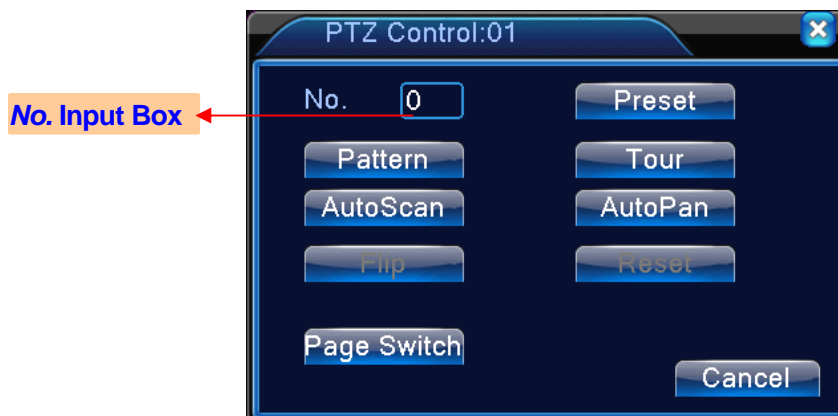
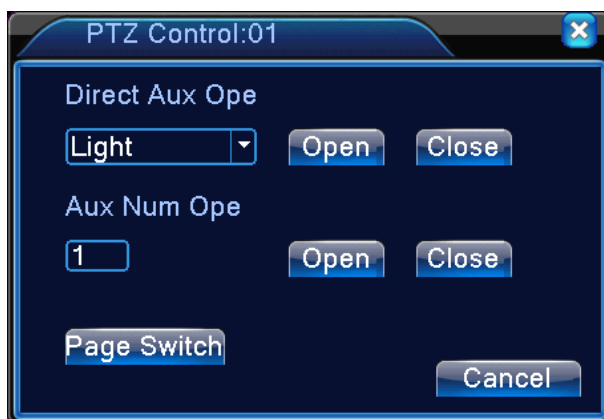

Figure 3.9 PTZ Control
Figure 3.13 Auxiliary Function Operations
In Figure 3.7, click **[Page Switch]** key and enter **PTZ Control** interface as shown in Figure 3.9. Enter preset point number in the **[No. Input box]**, click **[Preset]** key, and then the PTZ turns to the corresponding preset point.
In Figure 3.7, click **[Page Switch]** key and enter PTZ control interface as shown in Figure 3.9. Input patrol number in the **[No. Input box]**, and click **[Tour]** key to make the PTZ work repeatedly in the patrol line. Click **Stop** key to stop the Patrol.
In Figure 3.7, click **[Page Switch]** key and enter PTZ control interface as shown in Figure 3.9. Enter Patrol trail number in the **[No. Input box]**, click **[Pattern]** key, then the PTZ operates on the set trail. Click **Stop** key to stop.
In Figure 3.7, click **[Page Switch]** key and enter PTZ control interface as shown in Figure 3.9. Click **[Auto Scan]** key and the PTZ will operate repeatedly according to the set line. Click **[Stop]** key to stop the boundary scan.
In Figure 3.9, click **Page Switch** key to enter Figure 3.13 and set auxiliary functions. The auxiliary number corresponds to the auxiliary switch on the decoder.
**Page Shift:** In Figure 3.13, click **Page Switch** to enter Figure 3.7 PTZ menu, the menu itself can be controlled by the menu control keys.